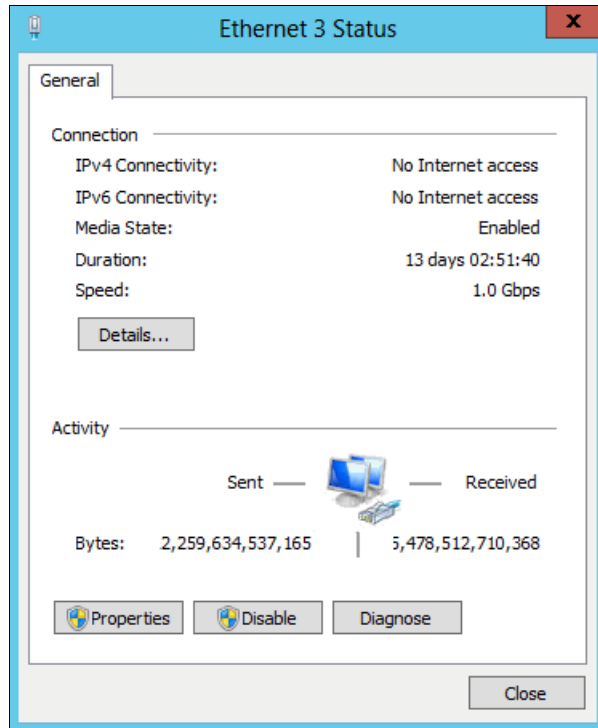

Figure 5-14 Ethernet status
- To configure an IP address, click one of the iSCSI Ethernet connections (in this case, Ethernet 3 or Ethernet 4). Figure 5-14 shows the window that displays the Ethernet status.